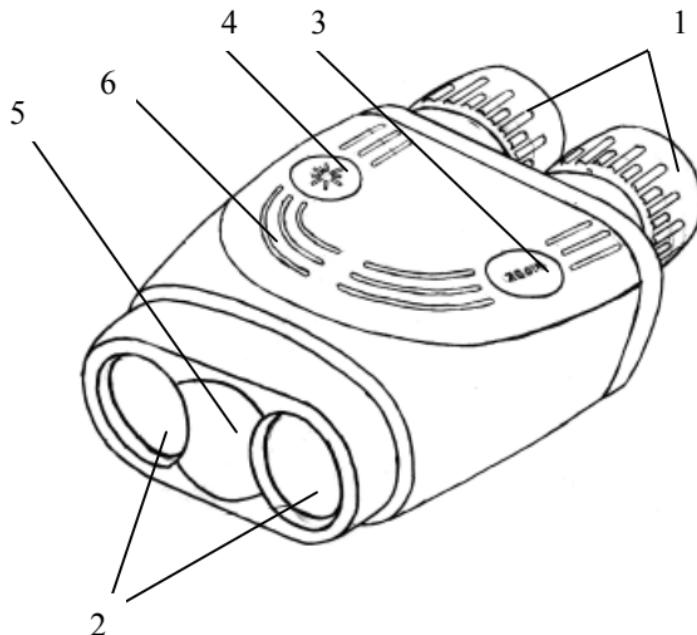

Fig. 1. Front view
- Rotate the battery compartment cover (5, Fig. 1) counter clockwise and pull it open
- Close the battery compartment cover (5, Fig. 1).
- Adjust the eye relief distance by moving collapsing eyepieces (1, Fig. 1) in lengthwise direction.
The LRB 3000PRO operational procedures are design to allow the user to use most applicable options in the fastest time possible. To activate it, press and hold Action button (6, Fig.1) for one second. At start the unit comes into Ready to Measure mode indicated by the word 'READY' on the display visible through the eyepiece.
Pressing Action button (6, Fig. 1) again will initiate measurement procedure. The results of measurement are displayed in default form of Distance (M) and Azimuth (mils) measurement parameters, which also can be modified to user preference (see Operation and service modes).
Pressing Mode button (3, Fig. 1) gives the user the options to change settings from Factory default to specific modes required by user. For full list of Mode options please refer to Operation and Service modes